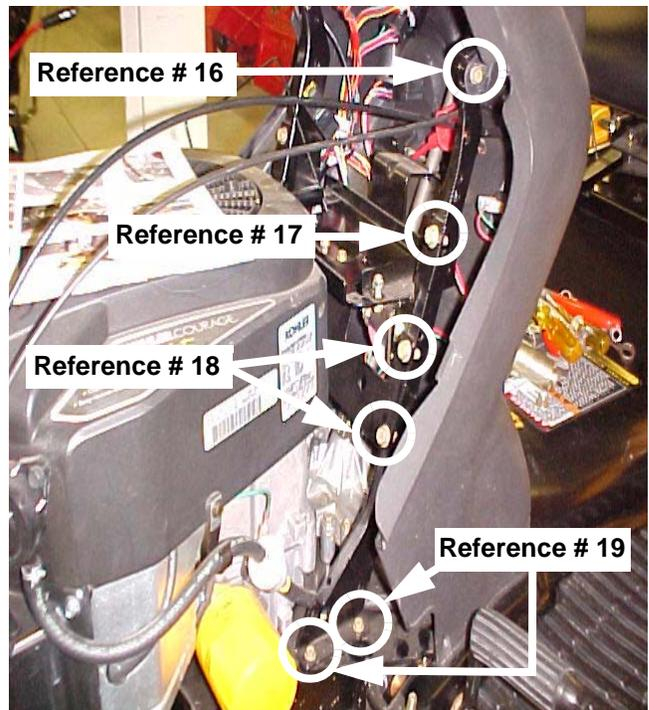

FIGURE 12
16. Remove the screw securing the dash to the upper portion of the LH dash support. See Figure 12.
17. Remove the bolt securing the battery support bracket to the LH dash support. See Figure 12.
18. Remove the two (2) bolts that secure the dash support plate to the LH dash support. See Figure 12.
19. Remove the two (2) screws that secure the LH dash support to the LH steering support bracket and frame. See Figure 12.